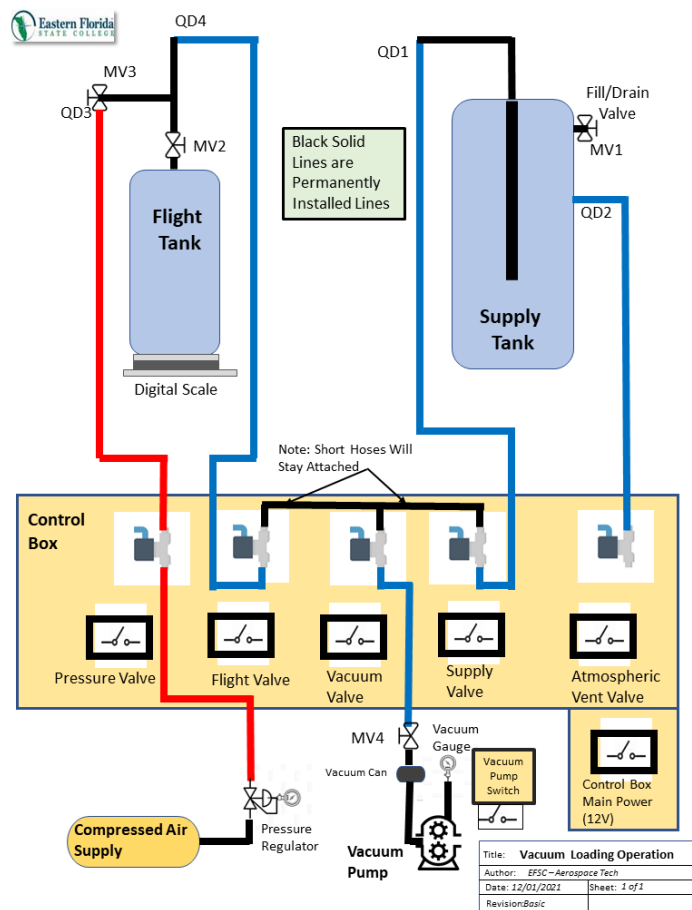

Figure 1 : Space Vehicle – Vacuum Loading Operation
B) Setup (Reference Figure 1)
- 5) Connect Vacuum and Fluid lines as shown in schematic (Figure 1)
- 6) Verify all Vacuum and Fluid lines are connected as shown in schematic (Figure 1)